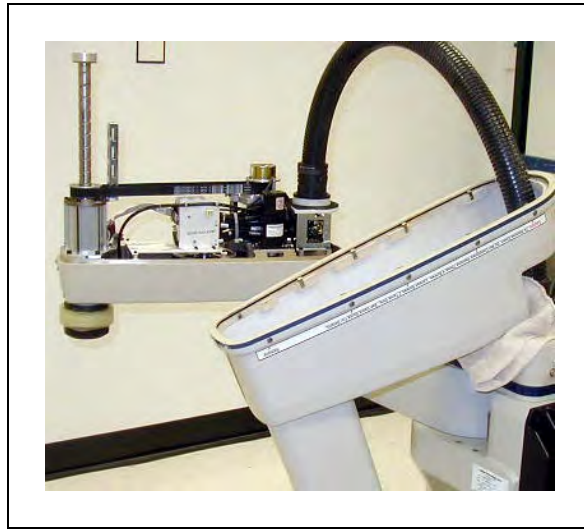

Figure 9-9. IP65 Robot with Outer Link Cover Removed
- 8. When all 8 screws are loose (but not removed), lift the cover up and slide it back along the cable track and out of the way. Protect the cover with a soft cloth or other padding material so the cover does not get scratched. See Figure 9-9.